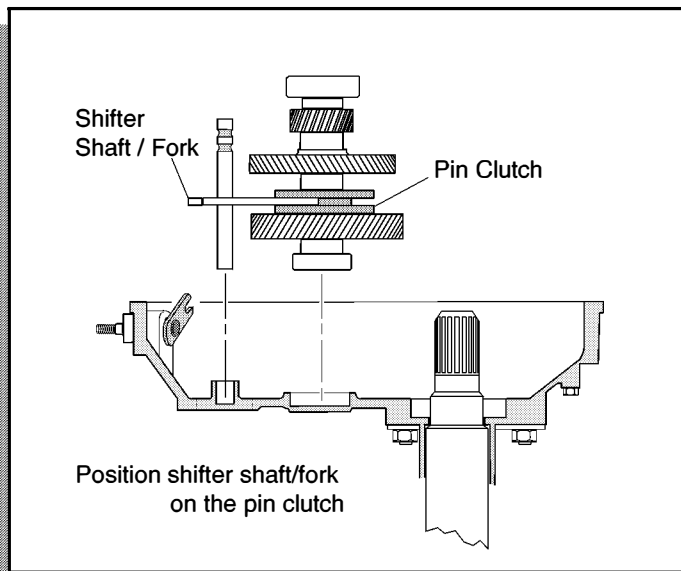

Fig. C-14 Shifter Fork and Pin Clutch Assembly
1. Lubricate the shifter shaft and fork with assembly lube and position the fork on the pin clutch in the intermediate gear assembly, with the two detent grooves up as shown (Ref Fig. C-14 on page C-6).